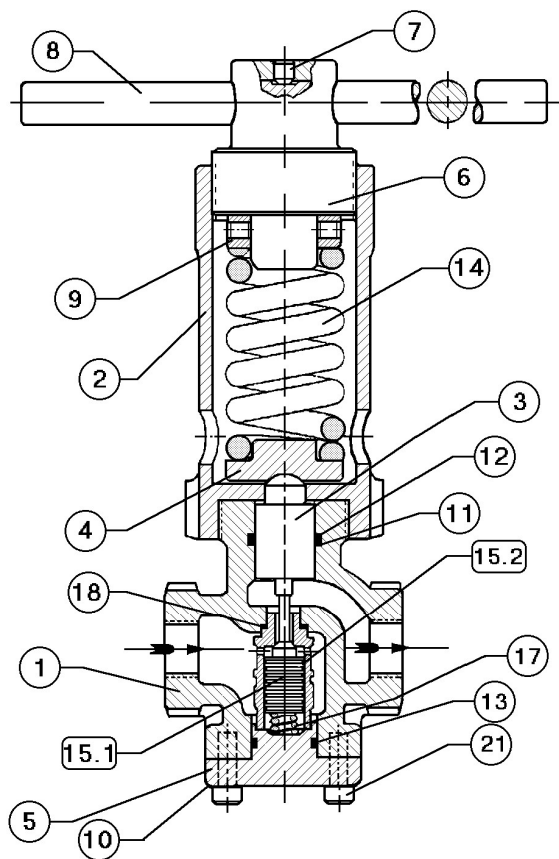
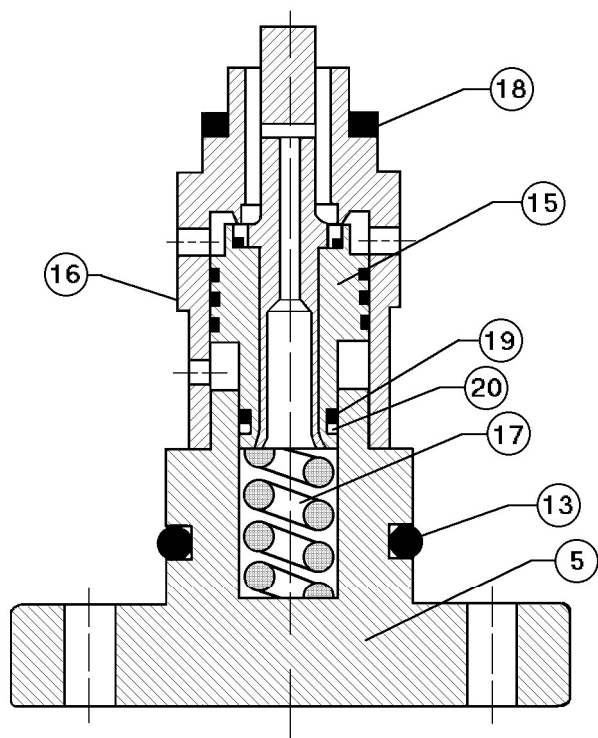

Figure 1: Basic Model 345 with metal seat design.
Figure 2: Composition Seat Design
3. Refer to Figure 1 for the basic regulator, metal seat design and Figure 2 for a blow-up of the balanced TFE trim.